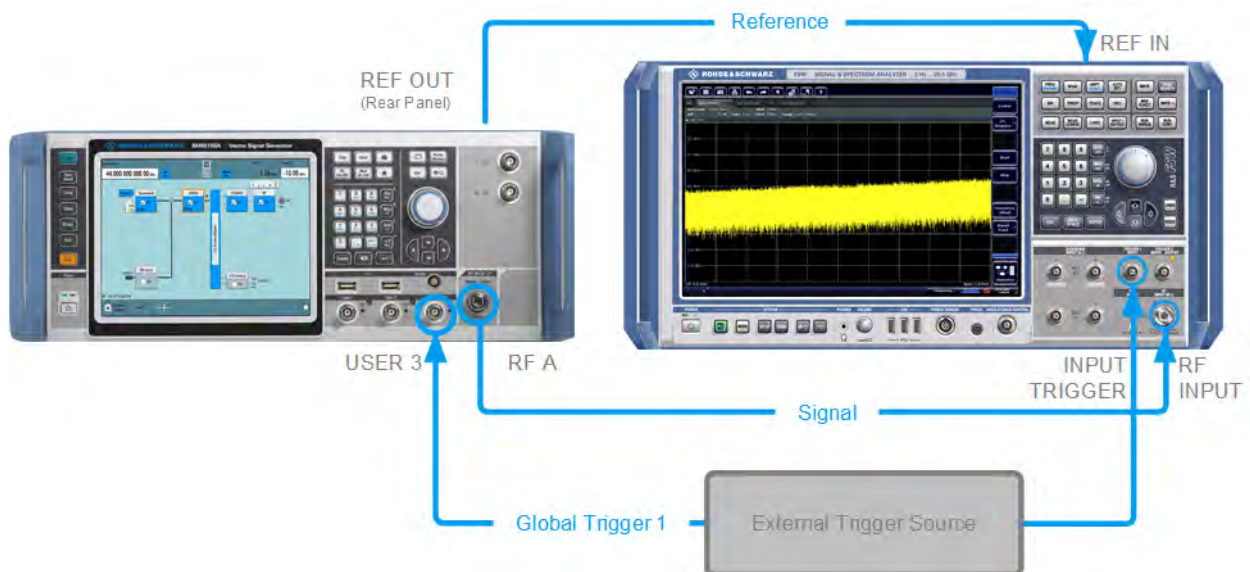

Figure 3-13: Simplified representation of a test setup**
1. Use a suitable cable to connect the external trigger source to the User 2 connector of the R&S SMM100A. See Figure 3-13.
The Figure 3-13 depicts the location of the connectors and explains the connection as principle. In practice, you would rather "substitute" the analyzer by a DUT, like a base station (BS). Other than in the example, the DUT can be the source for the reference signal. Instead of using an external trigger source, the DUT can also